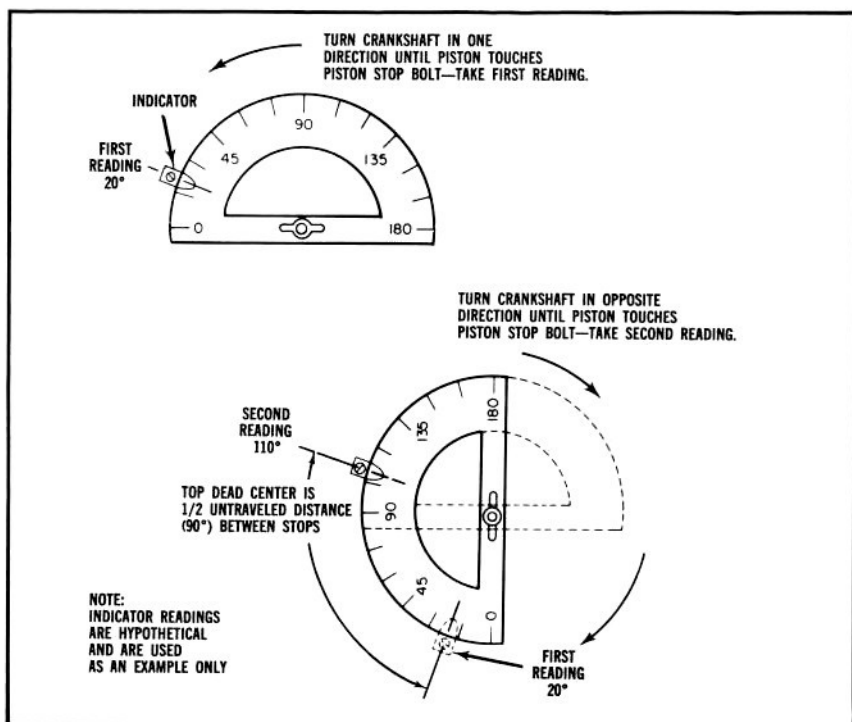

FIGURE 13
8. Thread the piston stop bolt all the way through the spark plug shell and into the cylinder bore. Turn the crankshaft (either way) until the piston touches the piston stop bolt. At this point, take the degree wheel reading. Turn the crankshaft in the opposite direction until the piston again stops at the piston stop bolt. Take a second reading (Figure 13).
9. The untraveled degree distance between the two stops (Figure 13) can now be used to locate top dead center. One-half of this distance represents top dead center. If, for example, the degree distance not traveled by the crankshaft rotation is 90 degrees, top dead center is 45 degrees.